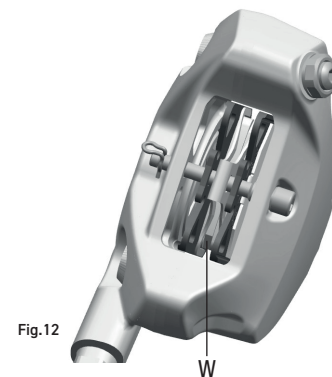

Fig.12
- Excessive wear of the brake pads, where the wear indicator on one or more of the pads is no longer visible (W - Fig.12)